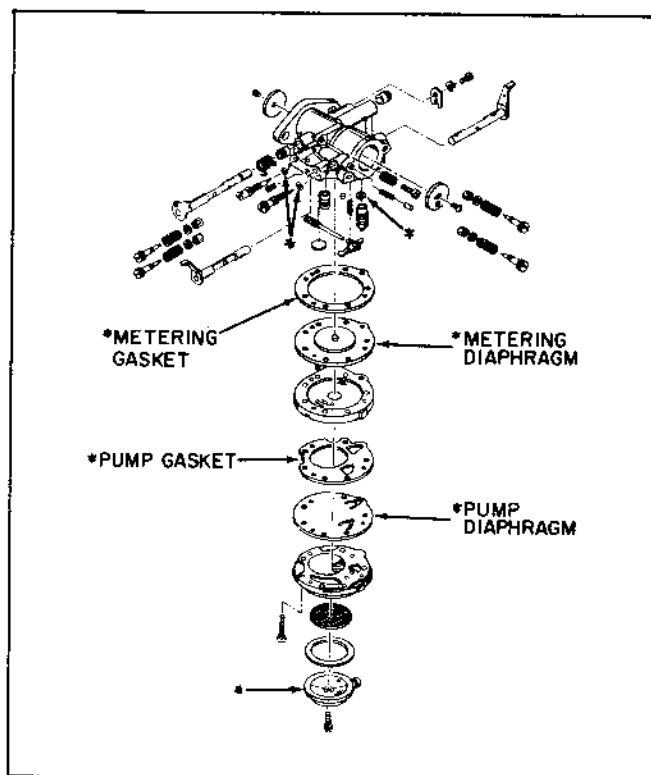

Figure 4-6
- (2) Diaphragm and gasket sequence is important in the fuel metering and pump sections of the HC carburetor. Arrange as shown in figure 4-6.